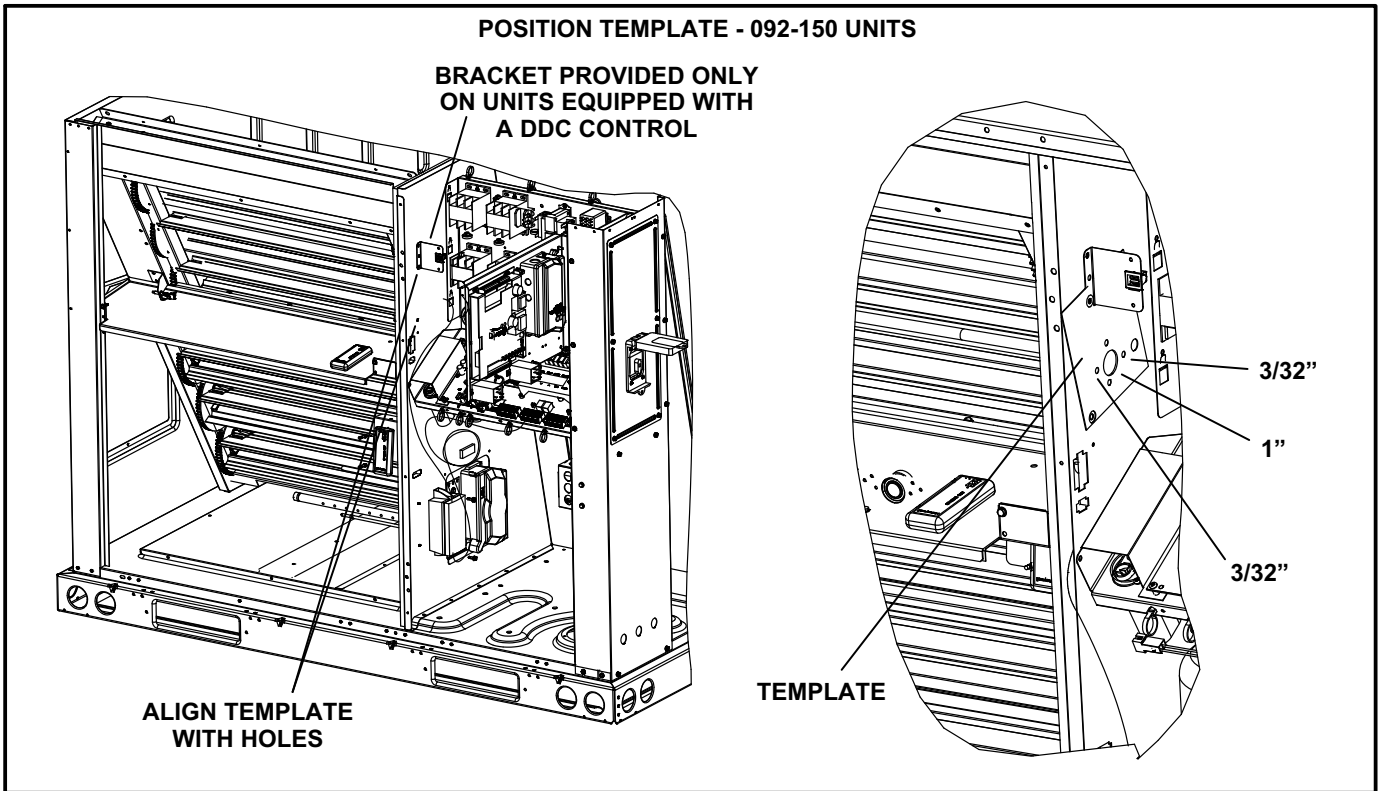

FIGURE 2
- 2- Align the template provided in this kit as shown in figure 2 or 3. Mark and drill holes. Discard the template.